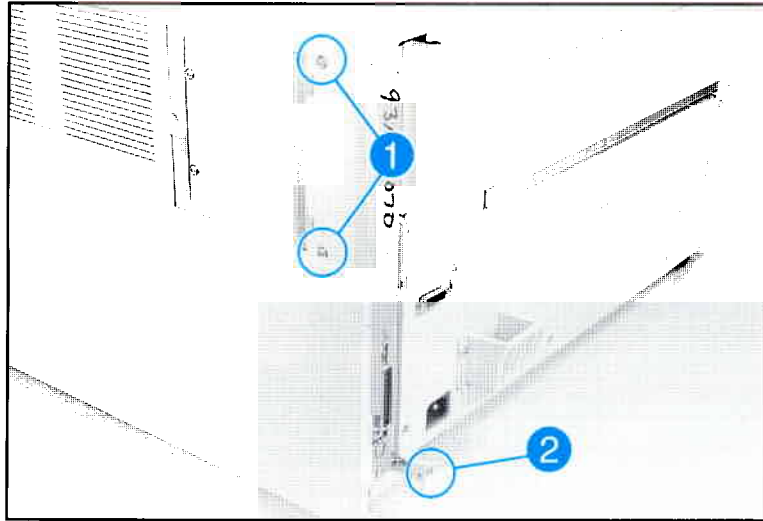

Figure 6-4 Right Side Cover Screws
3. From under the SIMM Access Door remove (2) screws shown in Figure 6-4, item 1.
4. From the rear of the printer, remove (1) screw as shown in Figure 6-4, item 2.